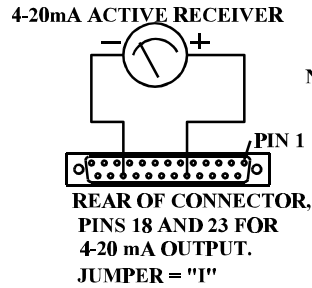

Figure 2
- 4-20 mA active receivers connect as shown in Figure 2. Note that an active receiver contains a voltage source to power the loop current. Note that the receiver must have an isolated input circuit. That is, it must not be connected to ground or to a voltage source referenced to ground. Be sure that SW101 is set to the “I” position before power is applied.